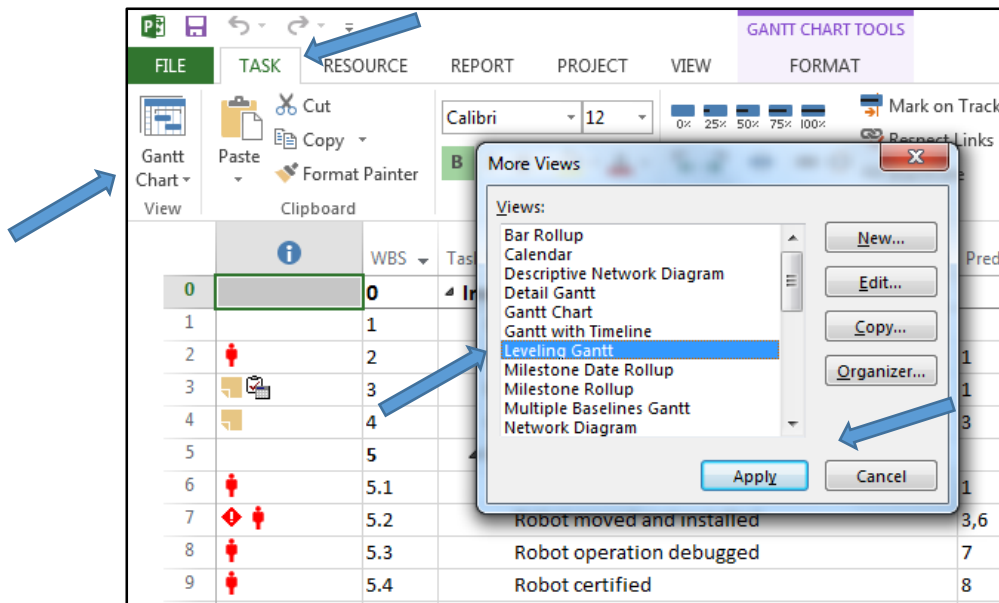

Figure 31
- Click on the lower half of the Gantt Chart icon on the Task tab. Then click More Views to bring up the dialog box. Select Leveling Gantt and click Apply (Figure 31).